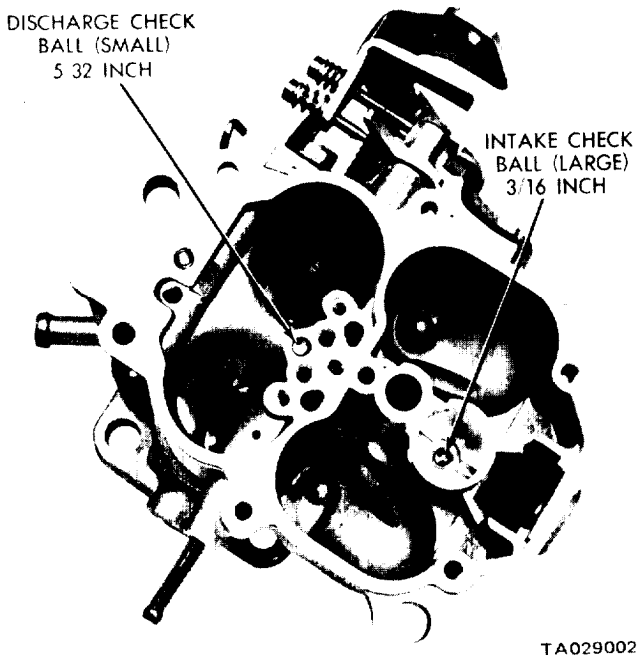

Figure 12-9. Installing the Accelerator Pump Intake and Discharge Check Balls.
(1) Place the insulator in position. Aline the throttle body with the main body and install and tighten the screws securely.
(2) Install the accelerator pump discharge check balls in the discharge passage (figure 12-9).